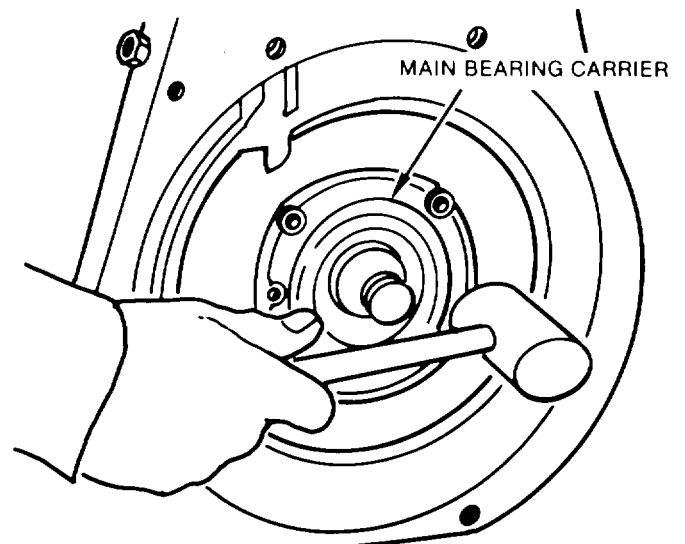

Figure A-32. Main Bearing Carrier
b. **Main Bearing Carrier.** Replace the main bearing carrier being certain to use a new gasket. Tap lightly with a soft faced hammer to seat the carrier. Using a 8mm wrench, torque down all four support capscrews. Replace the main bearing washer and o-ring, followed by the o-ring retainer. Face the beveled surface of the retainer towards the o-ring. (Figure A-32.)